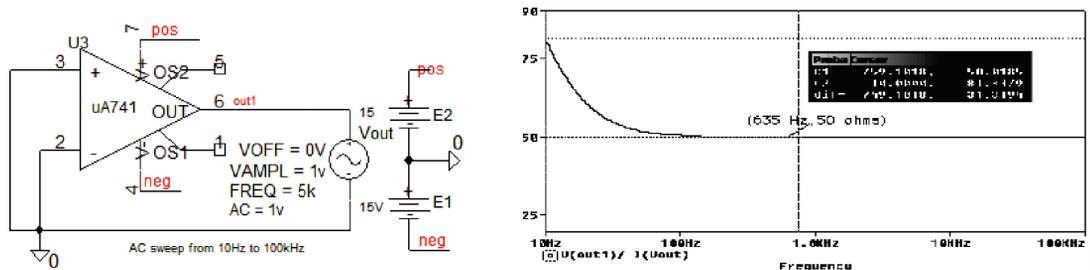

FIGURE 8.30: The output impedance
- (2) To measure the input and output impedances, follow the procedure outlined in [ref: 3]. Measure the output impedance by injecting a voltage as shown and plotting the ratio of voltage/current as shown in Fig. 8.30.